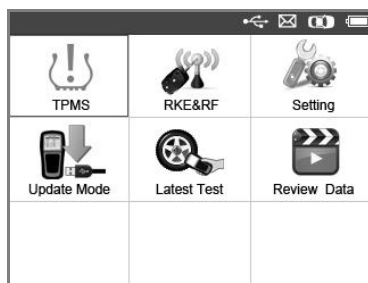

Figure 2.1
- 4) Power up the TPMS tool by pressing the **Power Button**, and wait for the Main Menu to appear. (Figure 2.1)
- 1) Use the **UP/DOWN** scroll button and **LEFT/RIGHT** scroll button to select **TPMS** from **Main Menu** (Figure 2.1), and press the **Y** button to confirm.